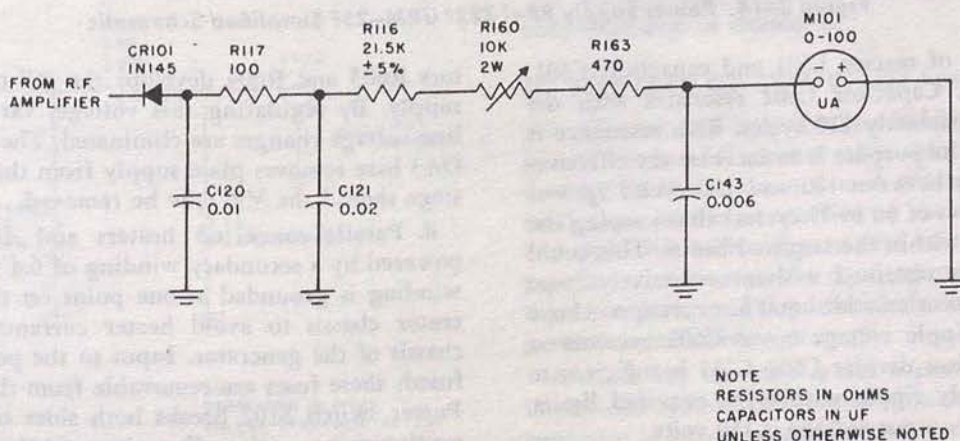

Figure 2-13. RF Metering Simplified Schematic
b. Figure 2-13 is a simplified schematic of the RF metering circuit in operation in the CAL and CW positions of the FUNCTION SWITCH. The RF output of the signal generator is rectified by germanium diode CR101. A DC voltage, proportional to the carrier strength, is developed and fed to the meter through multiplier resistors R116 and R160. Calibrating resistor R160 is adjusted so that when the signal generator output is 2 volts RF at J101 (open circuit) the meter indicates 10 on the microvolts scale. This then sets the accuracy of the output to be obtained at J102. The diode load at high frequencies consists of C120, R116, R160, R163 and the resistance of M101 in series. At low frequencies, it consists essentially of C120 and C121 in parallel together with the above load resistors. Resistor R117 nullifies any inductive effect exhibited by C121 at high frequencies that might render the meter calibration inaccurate at these frequencies.